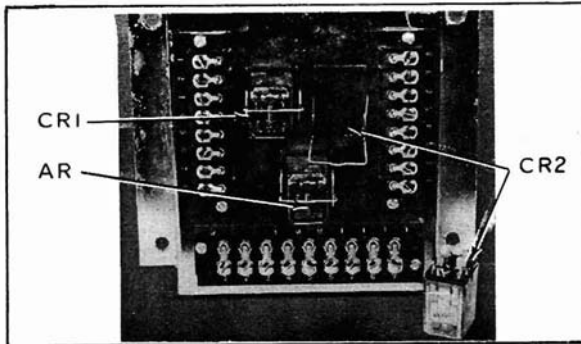

Figure 1. E.C.M.
C. RELAY FUNCTIONS - (See Figure 1.)
3. Alarm relay - (AR) - provides isolated contact (10-amp maximum) for remote alarm indication, bell, etc.